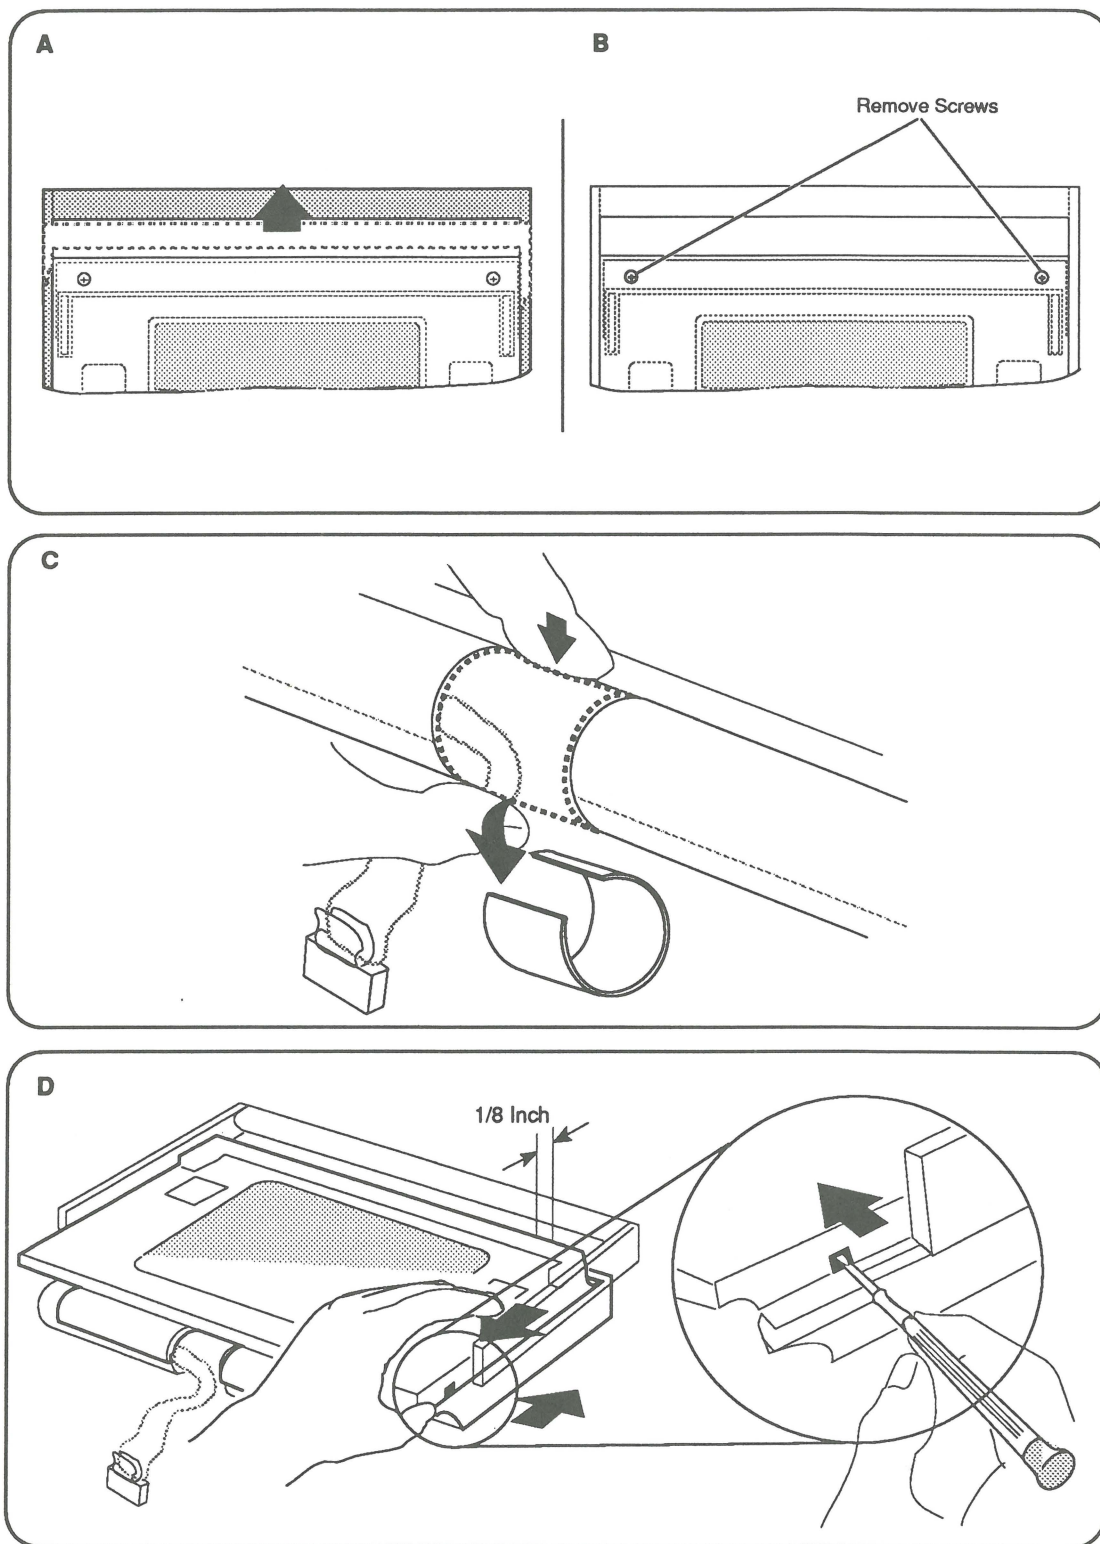

FIGURE 13
2. **Figure 13-A.** Slide the carrying handle away from the display to its fully extended position.
3. **Figure 13-B.** Remove the two Phillips screws at the upper-right and upper-left corners of the display bezel.
4. **Figure 13-C.** Remove the center pivot cover by turning the opening of the cover toward the display and then pulling the center pivot cover away from the display housing.
5. **Figure 13-D.** Release the right side of the display bezel by inserting the jeweler's screwdriver into the display latch opening on the left side of the display housing as shown in the inset of Figure 13-D. Hold the screwdriver with your right hand and place your left hand on the display as shown in the illustration. Push the screwdriver into the opening until you hear a click and then pull the display bezel toward you with your index and middle fingers while pushing the display housing with your thumb. The two parts separate about 1/8 inch.